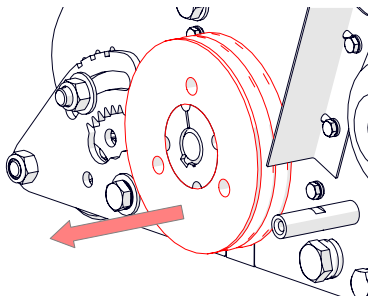

Fig. 15D - Remove the pulley.
7. The cylinder pulley requires removing but is held by a tapered bush. Remove the two grub screws [5 mm hex key] and then insert one of those grub screws into the empty third opening - the tapered bush and cylinder pulley will separate. Remove the grub screw. Additional force may be required to slide the tapered bush off the cylinder shaft. (Fig. 15D).